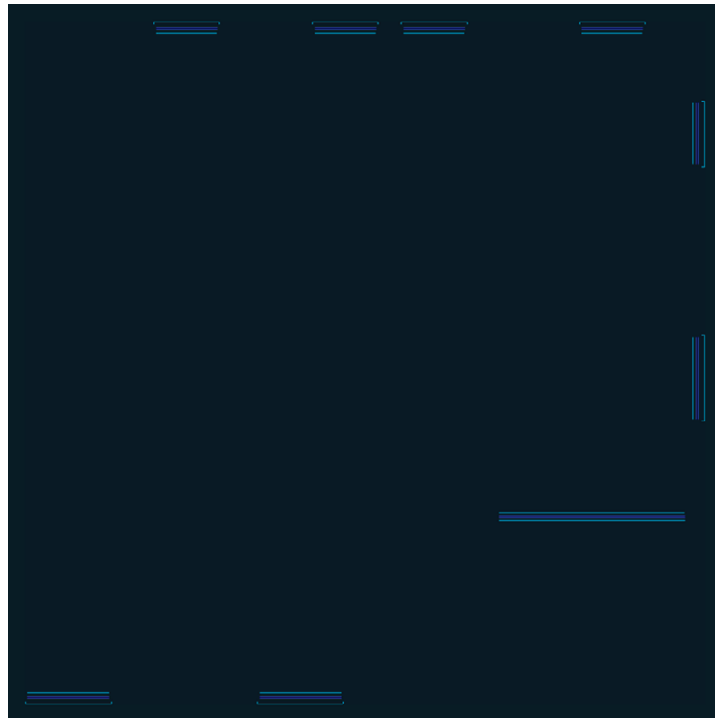

FIGURE 6.14 Isolating a couple of layers for focused work
1. Click the Isolate tool on the Layers panel, and then make a crossing selection through one of the windows. Press Enter, and all the other layers disappear (see Figure 6.14).